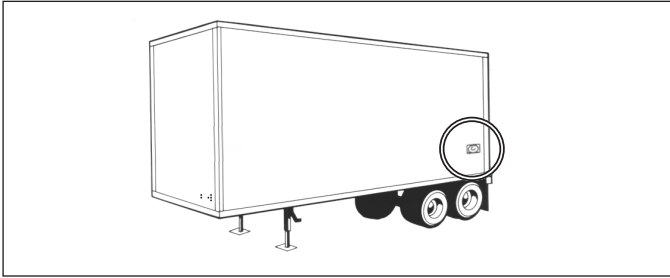

FIGURE 5 - TRAILER-MOUNTED ABS INDICATOR LAMP
- **Trailer ABS Indicator Lamp:** Controlled by the ECU to show the ABS status, the trailer ABS indicator lamp illuminates when a Diagnostic Trouble Code (DTC) is active. See Figure 5. If there are no ABS diagnostic trouble codes present, when ignition power is applied to the ECU, the lamp will illuminate as a bulb check lasting typically two (2), up to six (6) seconds at most.